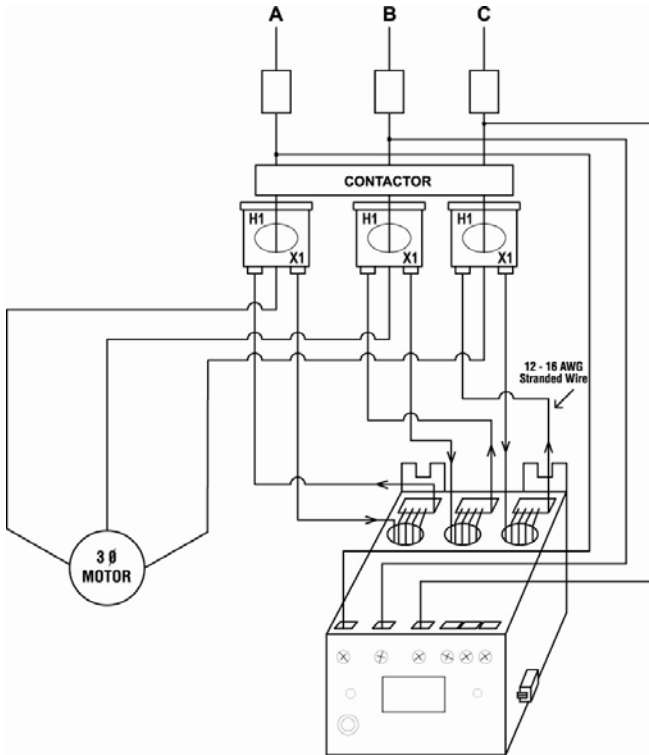

Figure 3: Typical Wiring Using External CTs¹
c) For amperages greater than 90 amps, external CTs (current transformers) are required. SymCom recommends using CTs with terminal connections for easier installation. All CT secondaries must make five passes through the round holes on the MotorSaver® Plus. See Figure 3 for a typical wiring diagram using external CTs.